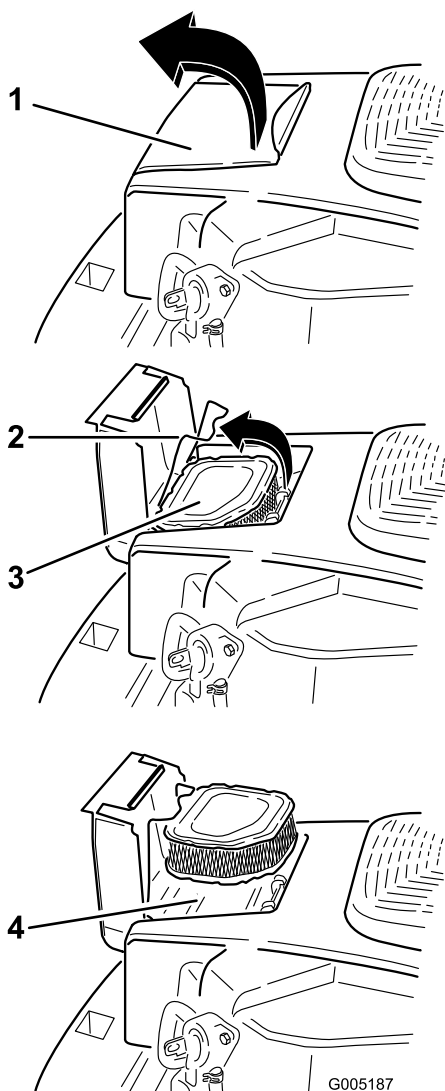

Figure 27
1. Open the air cleaner cover door on the blower housing to access the air cleaner element (Figure 27).
2. Unhook the latch and remove the air cleaner element (Figure 27).